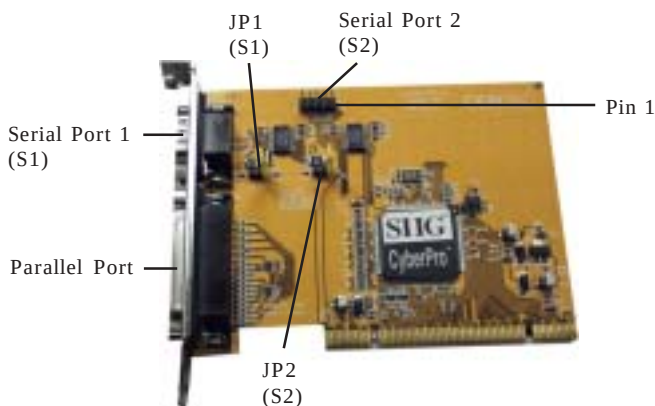

Figure 1. Layout
5. Change **JP1-JP2** jumper settings to the desired voltage only if your serial device(s) needs additional power from the serial port. However, most serial devices do not require additional power. For more information, see **Figure 1** on page **2**. Skip this step if power is not required.